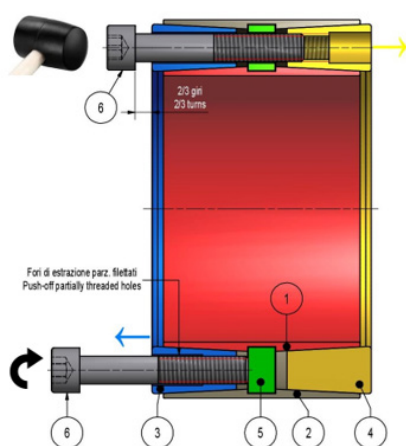

Fig. 2
2. **For ease of installation, thrust rings shall be disengaged (fig. 2).** Loosen all screws by two/three turns; then transfer and hand tighten at least two screws into the push-off threaded holes in the front thrust ring and slightly tap the head of remaining screws with an hammer.